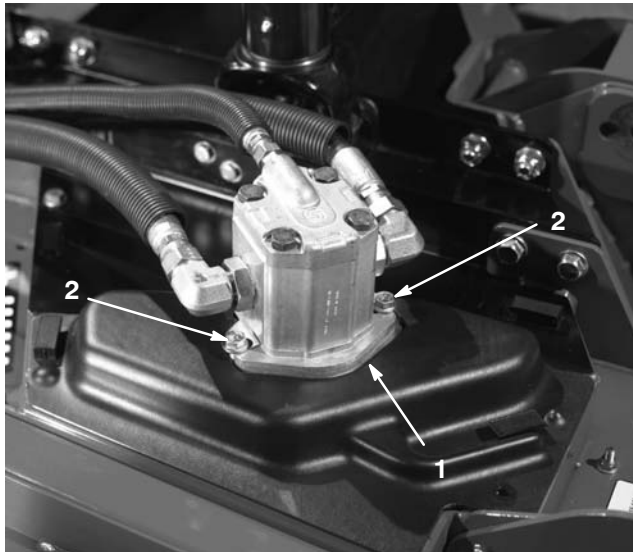

Figure 87
3. Remove the bolts securing the hydraulic motor to the cutting unit (Fig. 87). Lift the motor off of the cutting unit and lay it on top of the cutting unit.